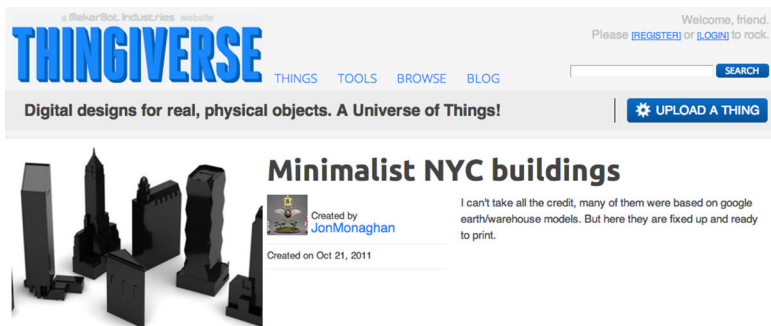
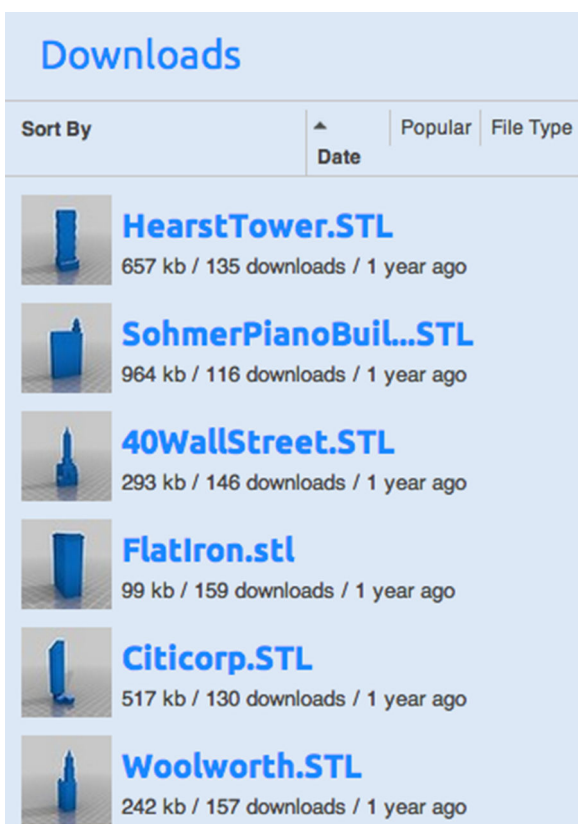

Figure 6-25. *Minimalist NYC buildings*
Figure 6-26. *Downloads for Minimalist NYC buildings*
5. On the page for Minimalist NYC buildings (Figure 6-25), go to the Downloads section, which you'll find in a section on the left side of the page (Figure 6-26).